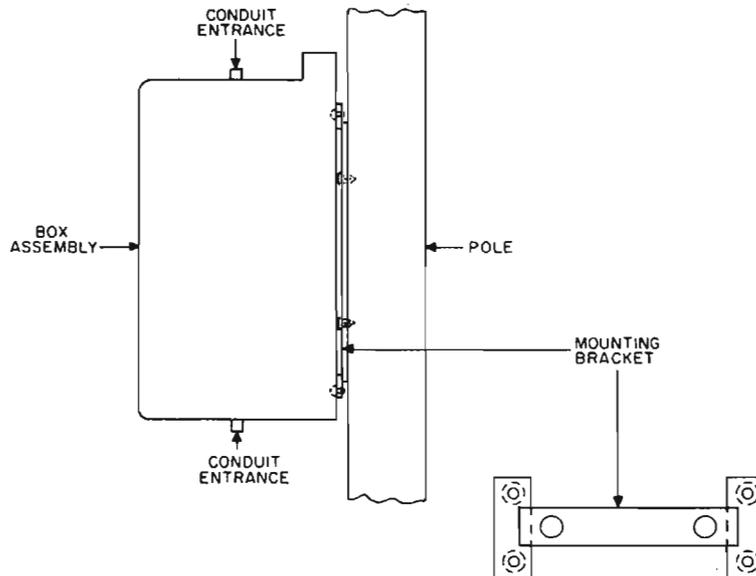

Figure 4. Box Assembly Secured to Flat Surface.
3.04 Use the following procedure to mount the telephone on a flat surface, such as a wall (Figure 4 and note 3 of Figure 3):